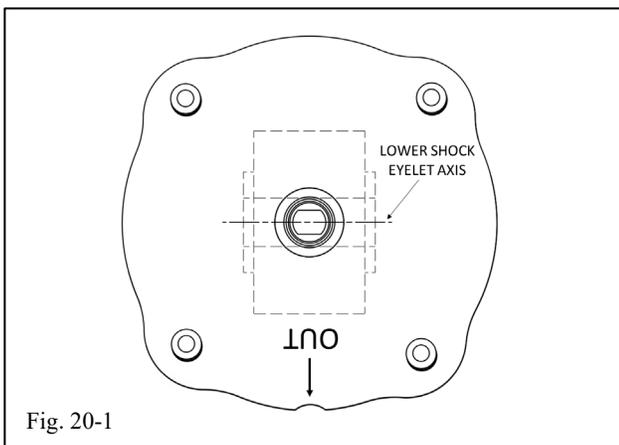

Fig. 20-1
- Using SST, compress the TRD front coil spring (Fig. 20-1).